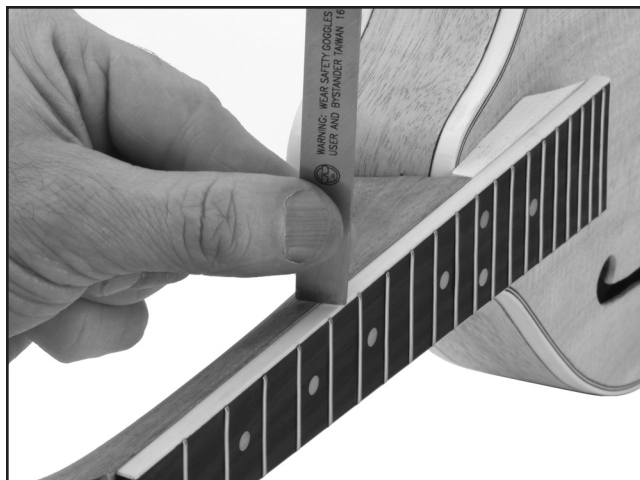

Figure 12. Removing glue residue.
2. Carefully scrape away any glue residue with a sharp chisel held perpendicular to the surface as shown in **Figure 12**.